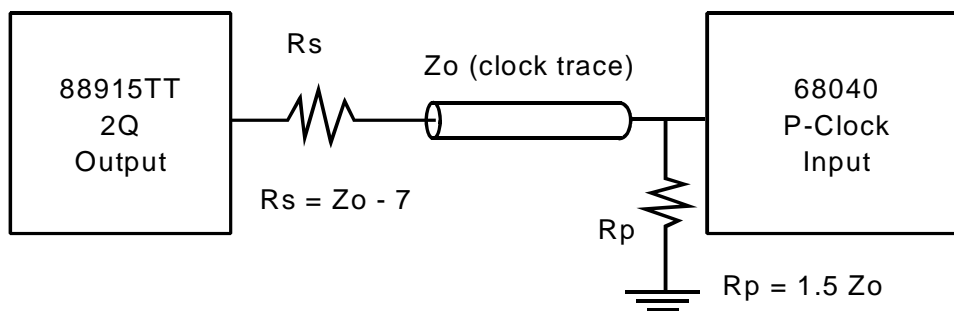

Figure 1. MC68040 P-Clock Input Termination Scheme
- These two specs (t_{RISE/FALL} and t_{PULSE WIDTH} 2Q output) guarantee that the FCT88915TT meets 68040 P-Clock input specification. For these two specs to be guaranteed by IDT, the termination scheme shown in Figure 1 must be used: